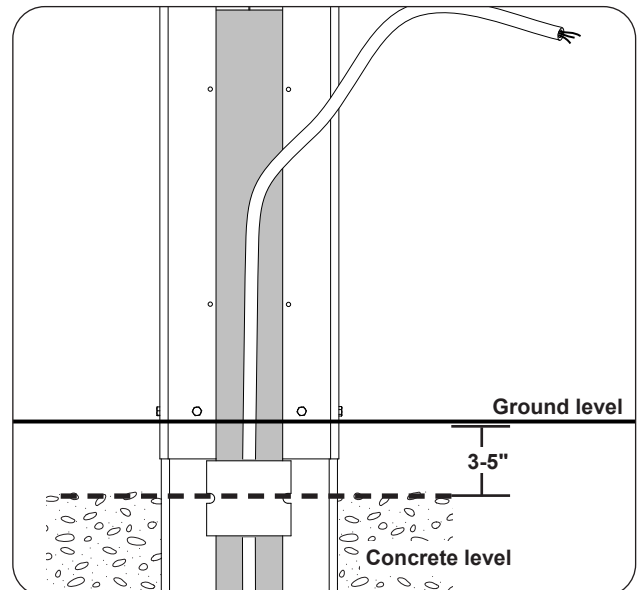

Fig. 32-2 Remove access plate and knock-out
- Where the electrical wiring is exiting the ground, dig a hole for the post and extension approximately 18" wide, 12" front-to-back, and 18 $\frac{1}{2}$ " deep. See Fig. 32-2.
- Carefully orient the post over the electrical supply line and into the installation hole. Verify proper positioning. See Fig. 32-2.
- Pour the concrete mixture into the hole to approximately 3-5" below the ground level taking care to protect the electrical wiring. See Fig. 32-2.